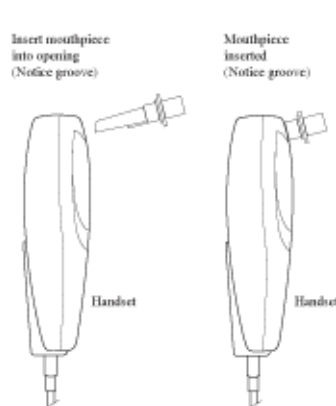

Figure 1
1. Insert a clean, dry mouthpiece into the Interlock device as shown in Figure 1 below.